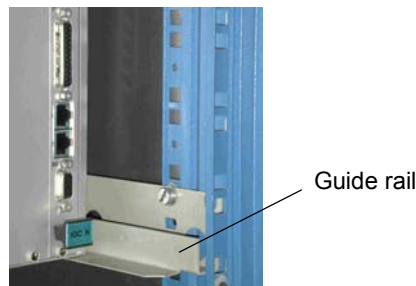

Figure 8-2 : Cabinet guide rail
- The cabinet should be equipped with the guide rail shown in Figure 8-2, or equivalent.